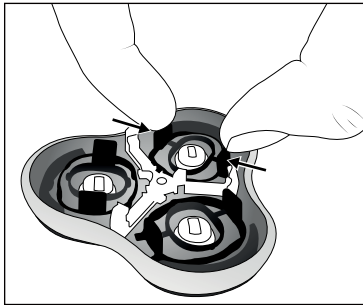

Fig. 3
- 2) Press the two protruding tabs together and release the black retainers from the catches (see Fig. 3). You can now remove the cutting heads and the blades.